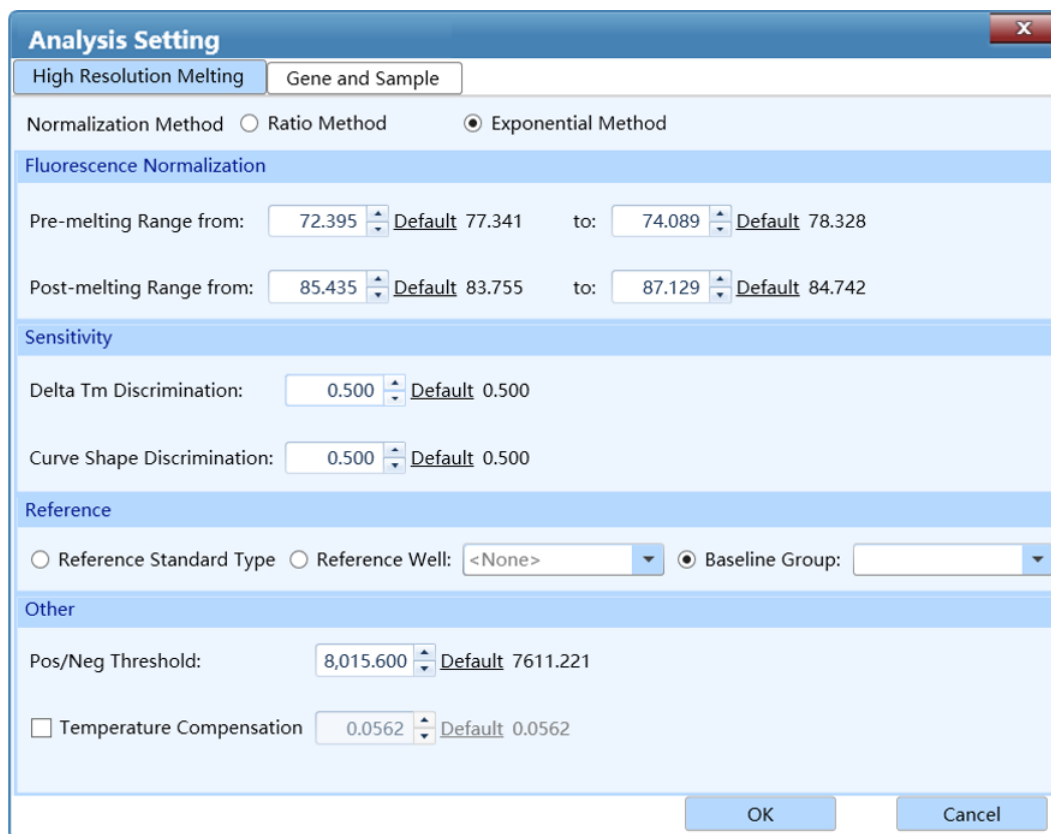

Figure D- 15. High Resolution Melting Analysis Setting Interface - High Resolution Melting Tab
- I. **High Resolution Melting** tab: user can set the **Normalization Method, Fluorescence Normalization, Sensitivity, Reference** and **Other** parameters for the current analytical method as shown in figure D-15.